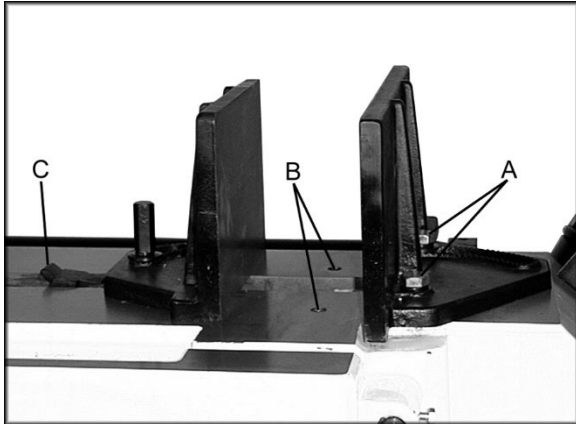

Figure 5
### 11.1 Adjusting vise square to blade (Position A, Figure 5)
2. If adjustment is necessary, loosen bolts (A, Figure 5) holding the vise and adjust vise so square lines up properly. Tighten bolts.
(Position B, Figure 5)
1. Move the vise into the second set of threaded holes (B, Figure 5) by removing hex cap bolts (A, Figure 5).
1. Pull up on the rack block (C, Figure 5).